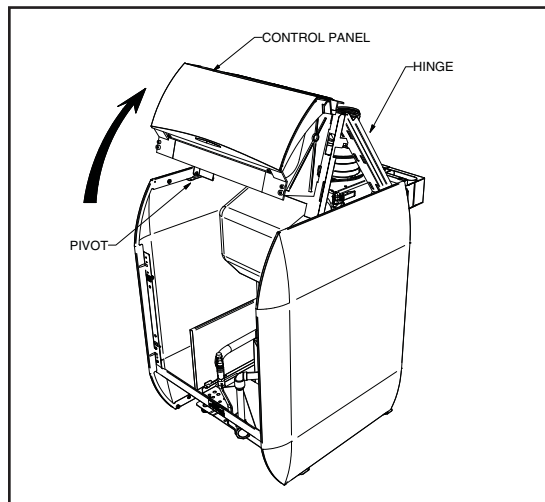

Figure 26c. Remove heat exchanger enclosure front cover.
- C. Remove the heat exchanger enclosure front cover, by unlatching the 2 top corners and lifting as the cover is pulled forward from the top. (See Figure 26c).